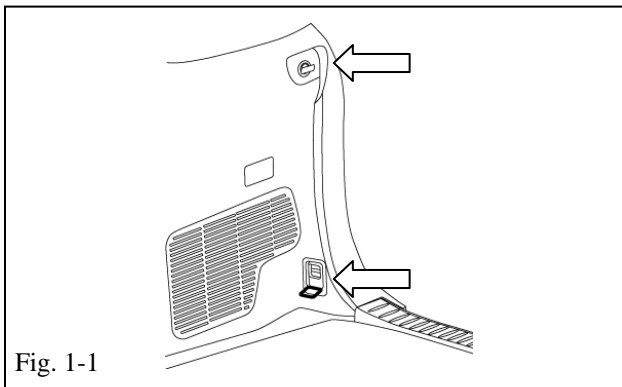

Fig. 1-1
- (a) Open hatch, locate anchor locations on the passenger's side of the vehicle (Fig 1-1.)